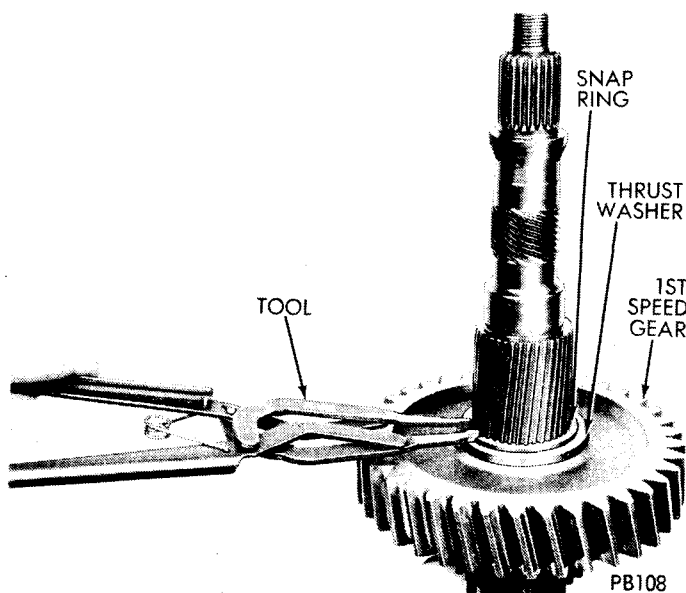

Fig. 12—Installing 1st-Speed Gear Snap Ring
(1) Place mainshaft in vertical position in soft-jawed vise, rear end up. Lubricate with transmission oil.
(2) Slide 1st-speed gear over mainshaft, clutch gear down. Install thrust washer and snap ring (Fig. 12).
(3) Slide reverse gear over end of mainshaft, fork groove down.
(4) Install mainshaft rear bearing on mainshaft with sleeve of suitable diameter, Tool C-4040, pressing on bearing inner race.
(5) Reverse mainshaft in vise.
(6) Install low-speed synchronizer.
(7) Slide 2nd-speed gear over mainshaft.
(8) Install keyed thrust washer over mainshaft, ground side toward 2nd gear. Secure with snap ring.
(9) Install 3rd-speed gear and one shim on mainshaft.
(10) Install 3rd-4th synchronizer over mainshaft.